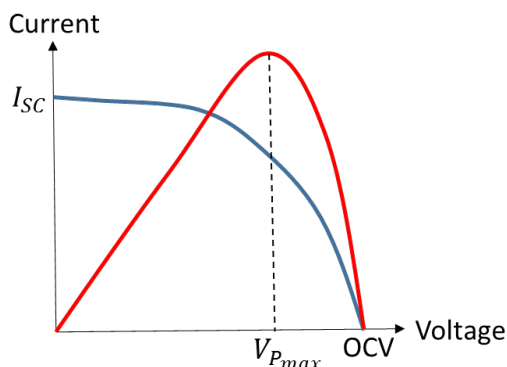

Fig.4 : I-V characteristics of PV cell
Photovoltaic (PV) cell has I-V characteristics on its output as shown in Fig. 4. When connecting PV with low impedance load such as regulator/ storage, charge is performed in a not efficient condition because PV output current and voltage are close to short circuit current/voltage. This is not the maximum power which PV can generate. IC with MPPT or MPPC function can improve generated energy dramatically by controlling the output voltage from PV